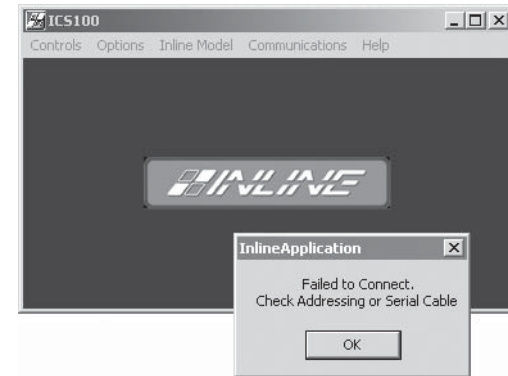

Figure 4-1 — ICS100 program window and warning
1. Click *Start > Programs > Extron > ICS100*. The control program window (figure 4-1) appears.
The CTL208 will **not** respond until it has been contacted with the valid address; after a moment, the program reports a failure to connect (figure 4-1).